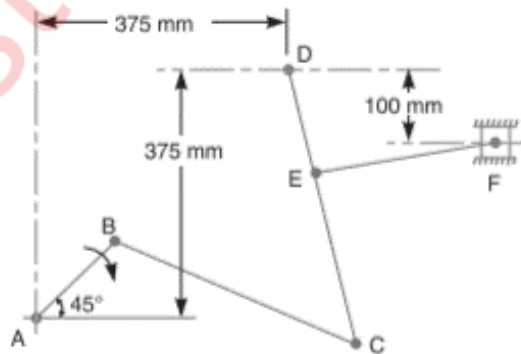

Figure 1
**Q.2A.** The mechanism, as shown in Fig.1, has the dimensions of various links as follows :  $AB = DE = 150 \text{ mm}$  ;  $BC = CD = 450 \text{ mm}$  ;  $EF = 375 \text{ mm}$ . The crank AB makes an angle of  $45^\circ$  with the horizontal and rotates about A in the clockwise direction at a uniform speed of 120 r.p.m. The lever DC oscillates about the fixed point D, which is connected to AB by the coupler BC. The block F moves in the horizontal guides, being driven by the link EF. Determine velocity of the block F and angular velocity of DC